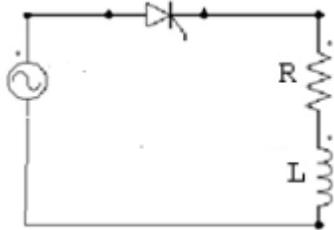

Figure 3.8
1. A Single phase controlled rectifier half waven shown in Figure 3.8 with $R = 10 \Omega$, $L = 20 \text{ mH}$, and $V_s = 220 \sin 314t$ and the firing angle α is 30° and $\beta = 220^\circ$. Determine the current through the load